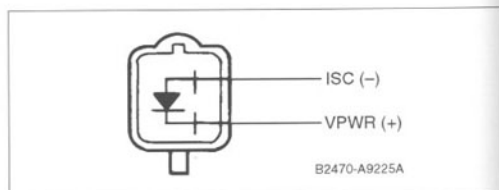

Fig. 5-1. Check ISC-BPA solenoid resistance. Solenoid has a diode, so measurement should be as shown, with DVOM (+) lead on VPWR pin.
3. Measure ISC-BPA solenoid resistance as shown in Fig. 5-1.